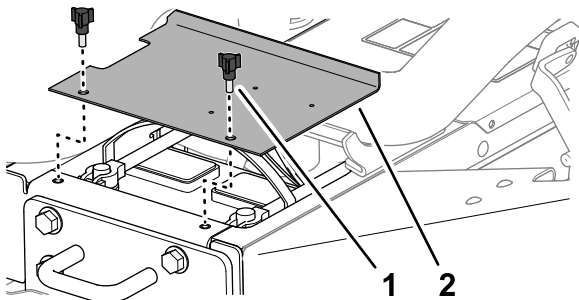

Figure 4
1. Remove the 2 knobs that secure the battery cover to the machine, and remove the cover (Figure 4).